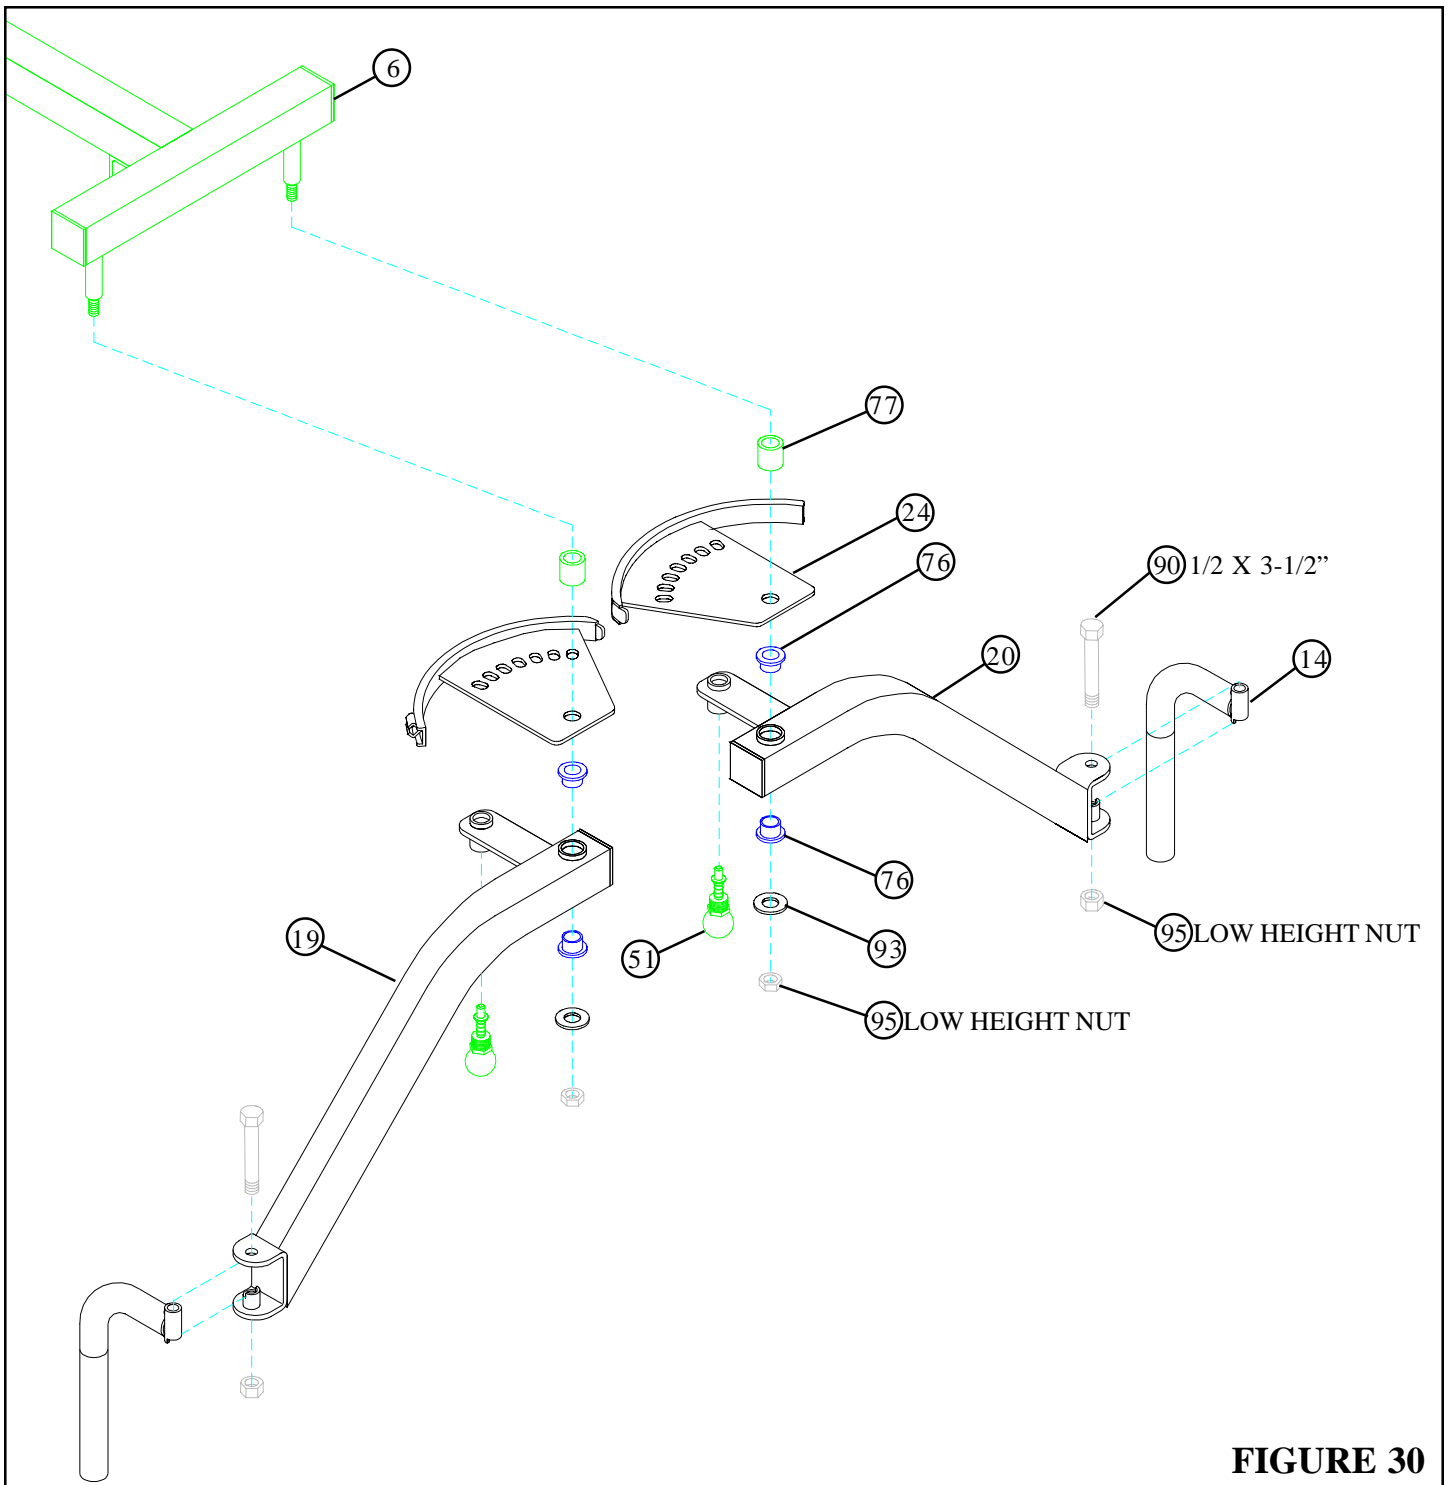

FIGURE 30
- Assemble one 3/4" SLEEVE BEARING (77), one PEC CAM (24), two 3/4" FLANGE BEARINGS (76), one 1/2" WASHER (93), and one 1/2" LOW HEIGHT LOCK NUT (95), and a LEFT (19) or RIGHT PEC ARM (20) to each threaded shaft on the BEARING HOUSING (6). See FIGURE 30.
- Securely assemble two 3/8" SPRING PIN ASSEMBLIES (51) to the spring pin barrels of the PEC ARMS (19 & 20). See FIGURE 30.
- **SECURELY** assemble one TOMALOCK HANDLE (14) to each PEC ARM (19 & 20) using one 1/2 X 3-1/2" BOLT (90) and one 1/2" LOW HEIGHT LOCK NUT (95) for each PEC ARM. See FIGURE 30.